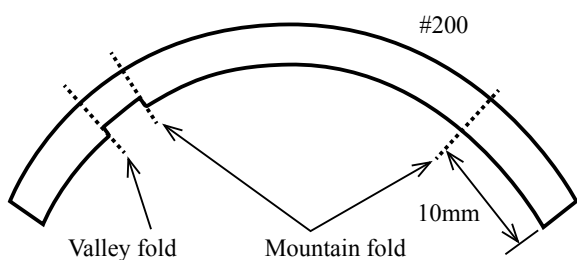
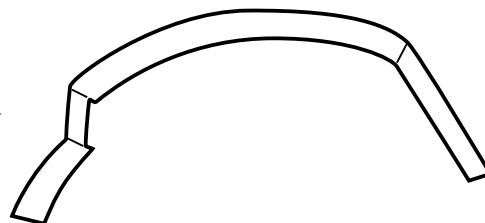

Fig.1
Fig.2
- Attach the main PCB as shown in Fig.1 and Fig.2, and fix them with the screw (#133), 5 screws (#173) and 2 screws (#174).
- Fold the light-shielding sheet (#200) at the position of Fig.1, to become like Fig.2.